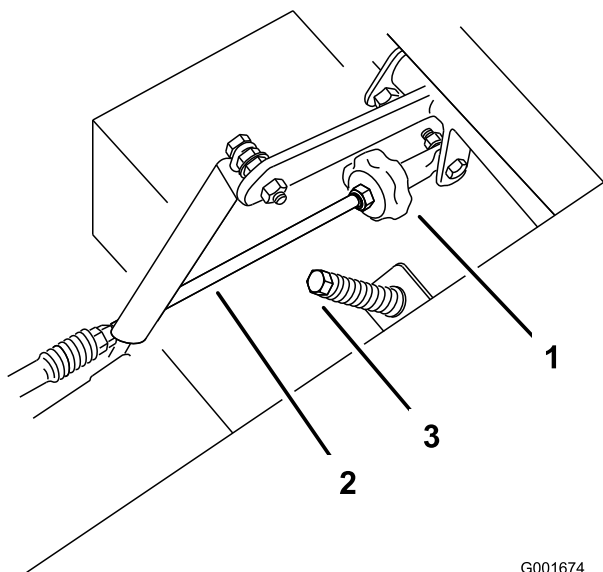

Figure 60
2. Adjust the pump rod length by rotating the knob, in the appropriate direction, until the wheel is still or slightly creeping in reverse (Figure 60).